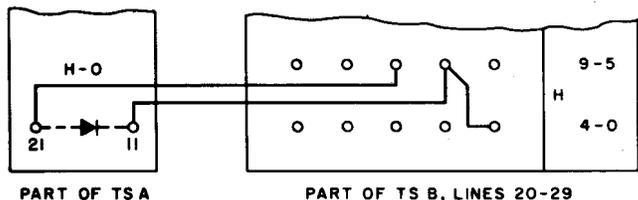

Fig. 10—Combination of One- and Two-Way Nonsequential Hunting Group Consisting of Station Lines 20, 26, and 27
2.12 A combined hunting group is formed by providing straps and diodes between the H terminals of the lines included in the group to produce the desired hunting pattern. For example, as shown in Fig. 10, if line 20 is dialed and found busy, call will be completed to line 26, if idle. If line 26 is dialed and found busy, call will be completed to line 20, if idle.